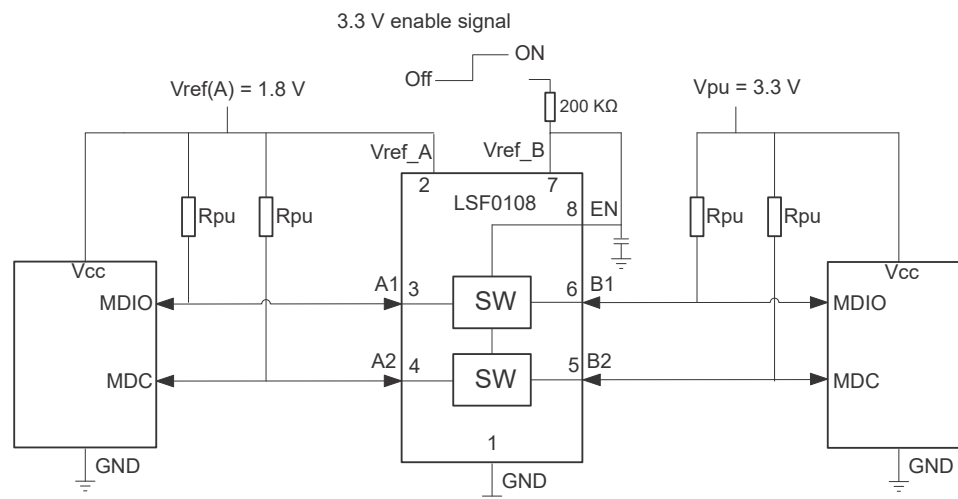

Figure 9-1. Typical Application Circuit for Open-Drain Translation (MDIO Shown as an Example)
- VCCB/VCCA are not the same as Vref_B or Vref_A: VCCB refers to the B-side supply voltage supplied to the LSF device, while Vref_B refers to the voltage at the Vref_B pin (pin 7 of Figure 9-1.) on the other side of the 200k resistor.
When Vref_B is connected through a 200-kΩ resistor to a 3.3-V Vpu power supply and Vref_A is set 1.8 V, as shown in Figure 9-1, the A1 and A2 channels have a maximum output voltage equal to Vref_A, and the B1 and B2 channels have a maximum output voltage equal to Vpu.